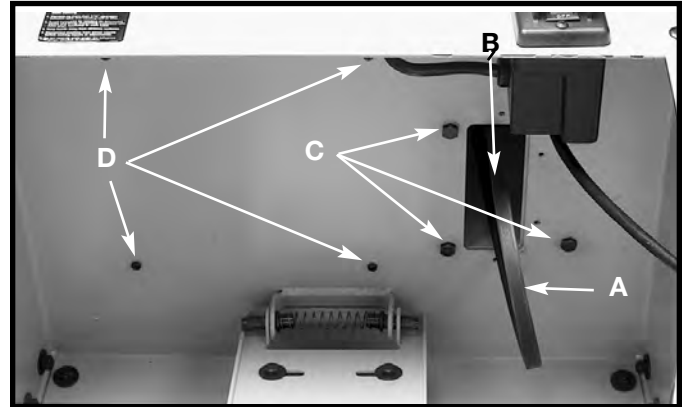

Fig. 8
1. Pull the belt (A) Fig. 8 down through the smaller rectangular hole (B) in the top shelf of the stand.
2. Fasten the machine to the top shelf with four $\frac{5}{16}$ " x $\frac{1}{2}$ " bolts and lockwashers (C) Fig. 8 (three of which are shown) and four #10-32 self-tapping screws and washers (D). (The motor was removed for easier viewing here.)